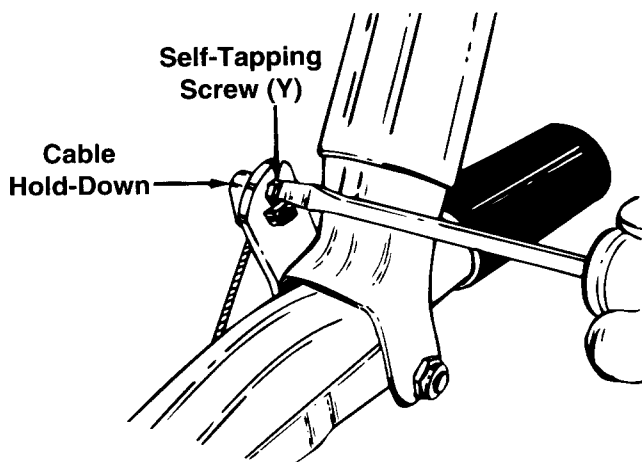

FIGURE 8.
- c. Pull the cable upwards to obtain slack, lift the clutch grip, and insert the cable hold-down into the clutch grip. Secure with self-tapping screw (Y). See figure 8.